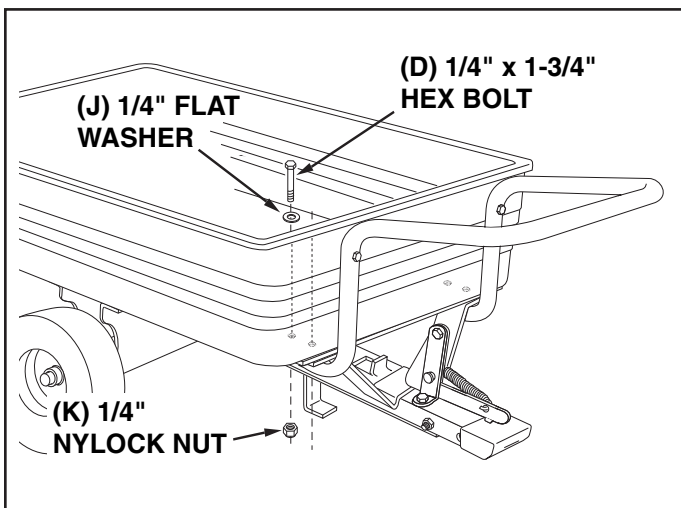

FIGURE 9
16. Align the holes in the handle with the holes in the bottom of the poly tray, the latch stand plate and the latch stand bracket. Fasten together using four 1/4" x 1-3/4" hex bolts (D), 1/4" flat washers (J) and 1/4" nylock nuts (K) as shown in figure 9. **Tighten.**